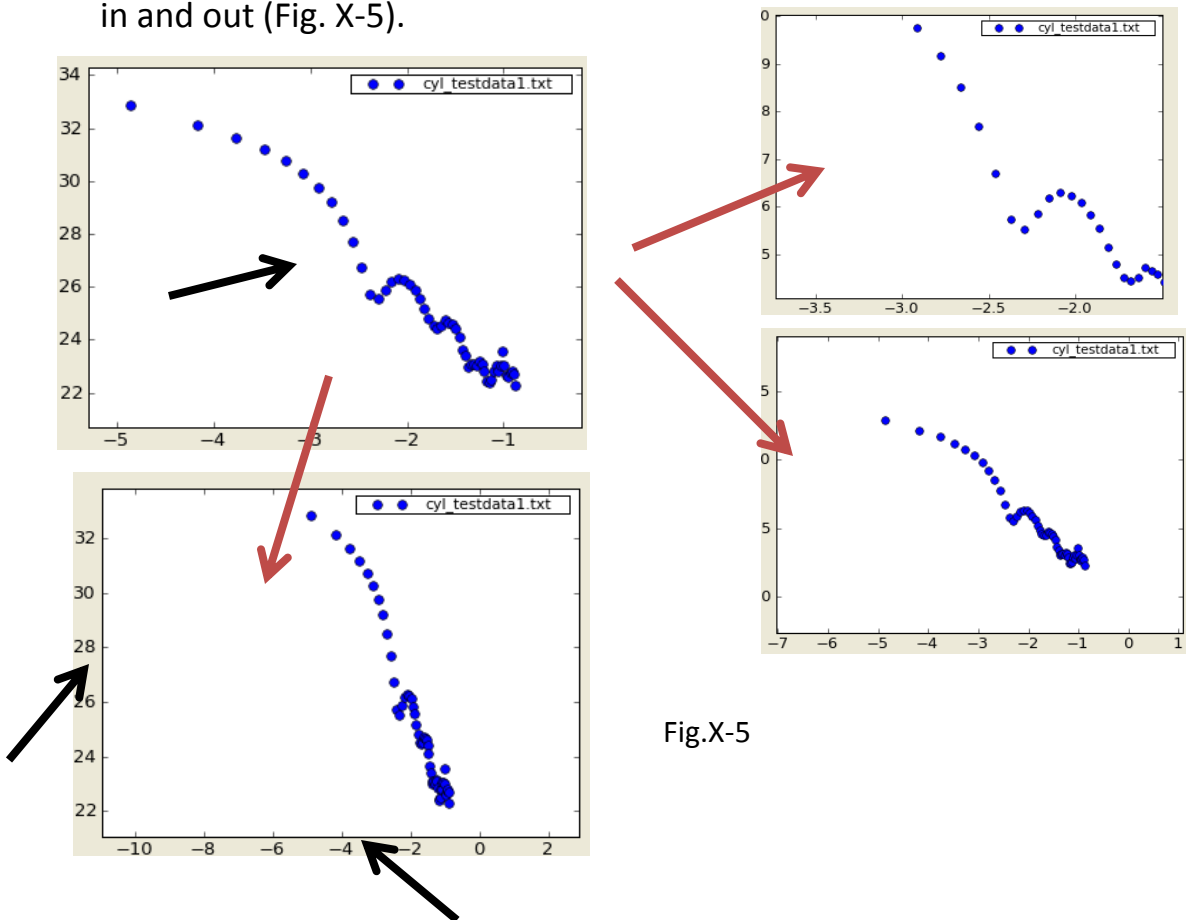

Fig.X-5
A) for both x- and y-axis; one-click in the plot panel, locate your pointer inside the axes then rotate the roller at the center of your mouse to zoom in and out (Fig. X-5).